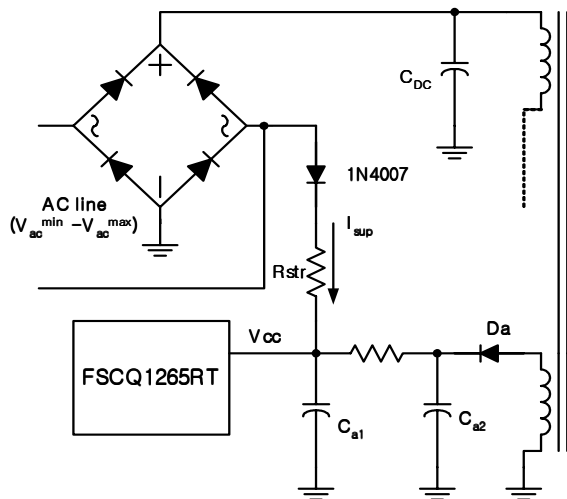
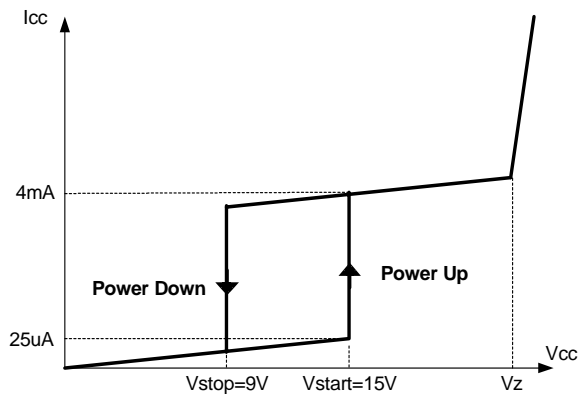

Figure 4. Startup circuit
Figure 5. Relation between operating supply current and Vcc voltage
**1. Startup :** Figure 4 shows the typical startup circuit and transformer auxiliary winding for FSCQ1265RT application. Before FSCQ1265RT begins switching, FSCQ1265RT consumes only startup current (typically 25uA) and the current supplied from the AC line charges the external capacitor (Ca1) that is connected to the Vcc pin. When Vcc reaches start voltage of 15V (VSTART), FSCQ1265RT begins switching, and the current consumed by FSCQ1265RT increases to 4mA. Then, FSCQ1265RT continues its normal switching operation and the power required for this device is supplied from the transformer auxiliary winding, unless Vcc drops below the stop voltage of 9V (VSTOP). To guarantee the stable operation of the control IC, Vcc has under voltage lockout (UVLO) with 6V hysteresis. Figure 5 shows the relation between the FSCQ1265RT operating supply current and the supply voltage (Vcc).